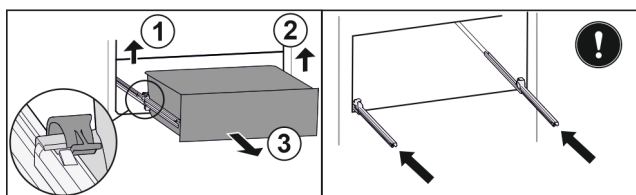

Fig. 132
- Lift left clamp and simultaneously pull drawer forwards on the left. Fig. 132 (1)
- Lift right clamp and simultaneously pull drawer forwards on the right. Fig. 132 (2)
- Remove drawer to the front. Fig. 132 (3)